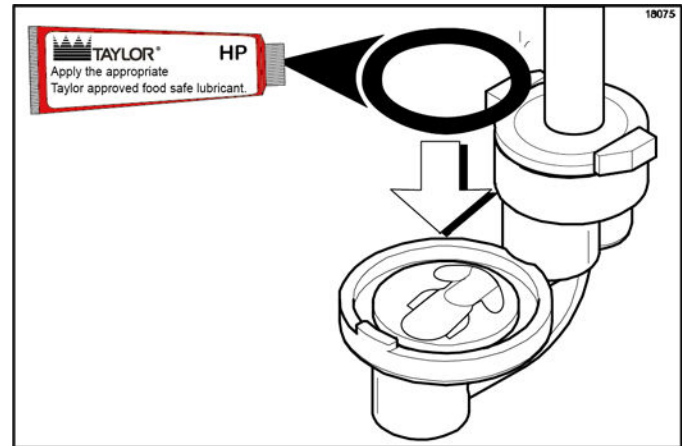

Figure 6-111
10. Lubricate and install the 1-5/16 in. O-ring into the valve body. (See Figure 6-111.)